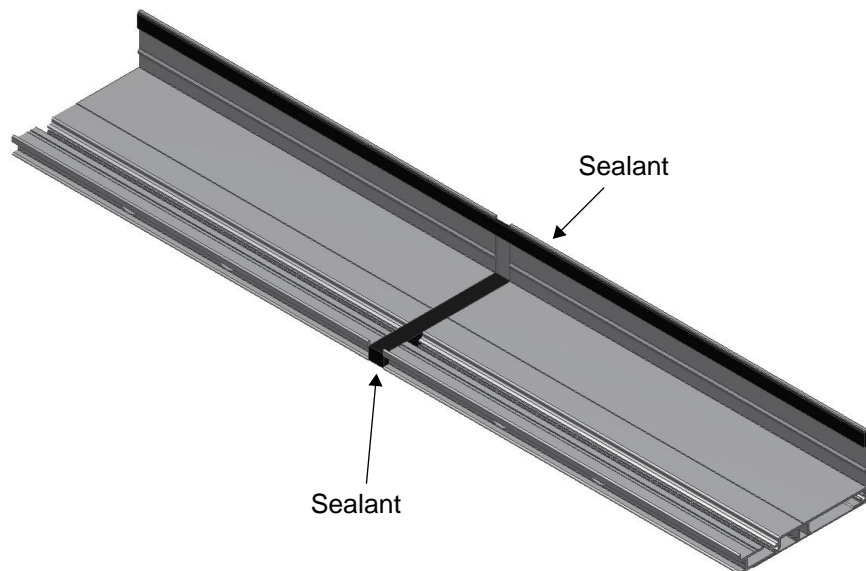

Figure 3: Apply sealant between the two pieces of sill flashing spanning the splice joint.
- Apply sealant between the two pieces of flashing spanning the splice joint as seen in Figure 3.